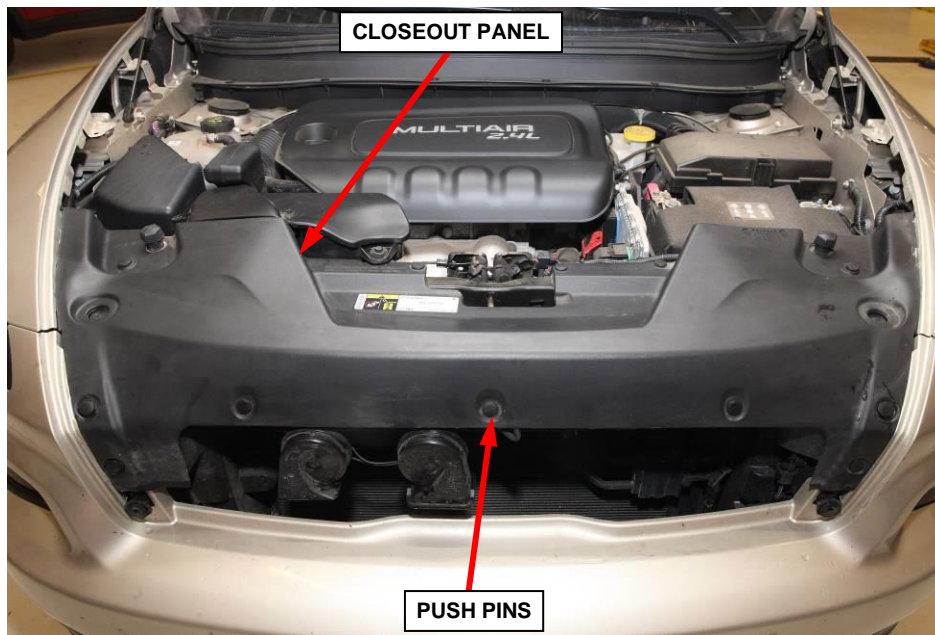

Figure 5 – Closeout Panel
11. Remove push pin fasteners then remove closeout panel (Figure 5).
36. Install the closeout panel and push pin fasteners (Figure 5).